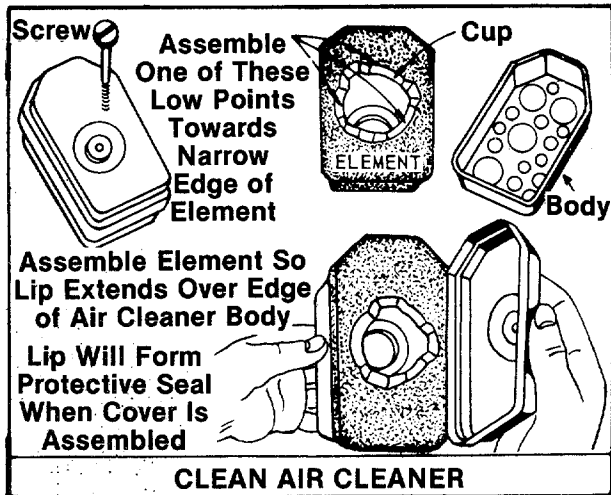

FIGURE 13.
**CLEAN AIR CLEANER** and re-oil element every 25 hours under normal conditions. Clean every few hours under extremely dusty conditions. Poor engine performance and flooding usually indicates that the air cleaner should be serviced. See figure 13.